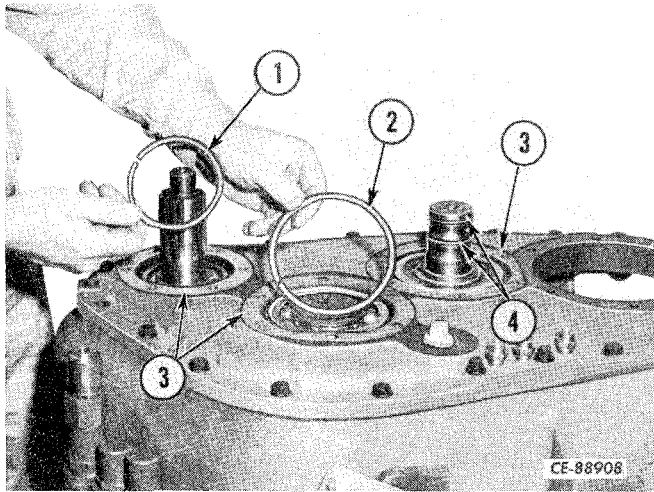

Figure 4-76
Install the input shaft bearing snap ring (1, Fig. 4-76) and the countershaft bearing snap ring (2). Install the 2nd and 3rd speed clutch pack shaft seal rings (4). Position the gaskets (3) on the cover.